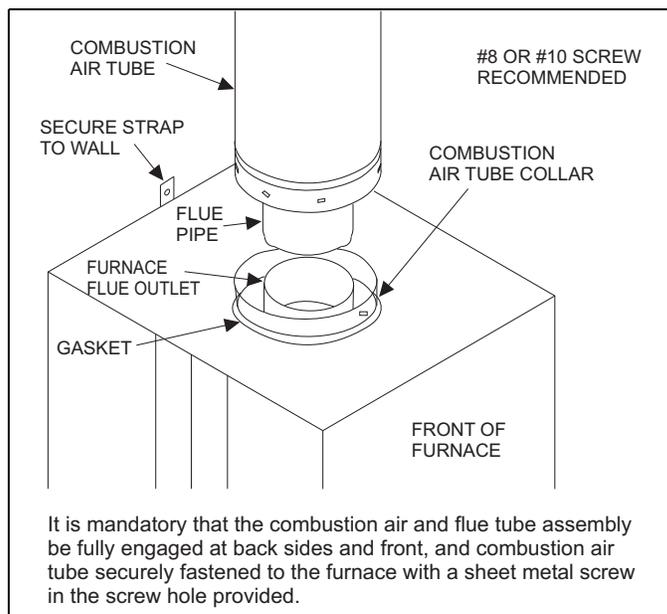

FIGURE 24: Connecting Roof Jack to Furnace
2. Pull the Roof Jack's telescoping section down onto furnace. Fully engage Roof Jack onto Vent Connector and Air-Intake Connector and compress gasket. See Figure 24. Refer to Interior Roof Jack Extension installation instructions, if applicable.
2. Pull the telescoping flue tube and combustion air tube assembly down from the roof jack. Slide the flue tube/combustion air tube assembly down firmly over the furnace flue outlet and combustion air tube collar. Insure that the back, side and front of combustion air tube collar is fully engaged and is in contact with gasket. Fasten the combustion air tube to the furnace combustion air collar using a 1/2 inch sheet metal screw. (Screw hole provided in combustion air tube and furnace combustion air collar. See Figure 24).